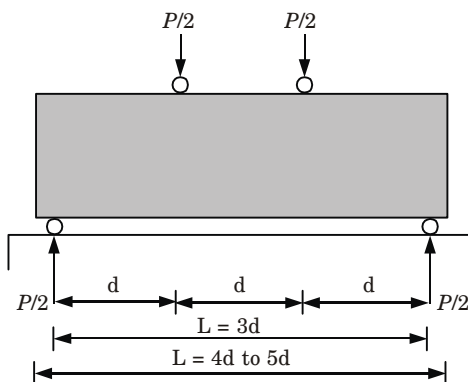

Fig. 4.18.1. Experimental arrangement for flexural strength test.
4. As shown in the Fig. 4.18.1 equal load application is done at one third distance from the end supports. The reactions are equal at the support.